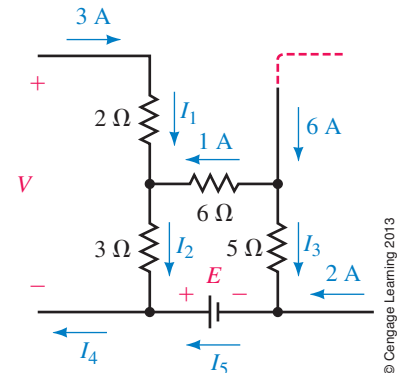

FIGURE 6-53
10. Refer to the network of Figure 6-53: